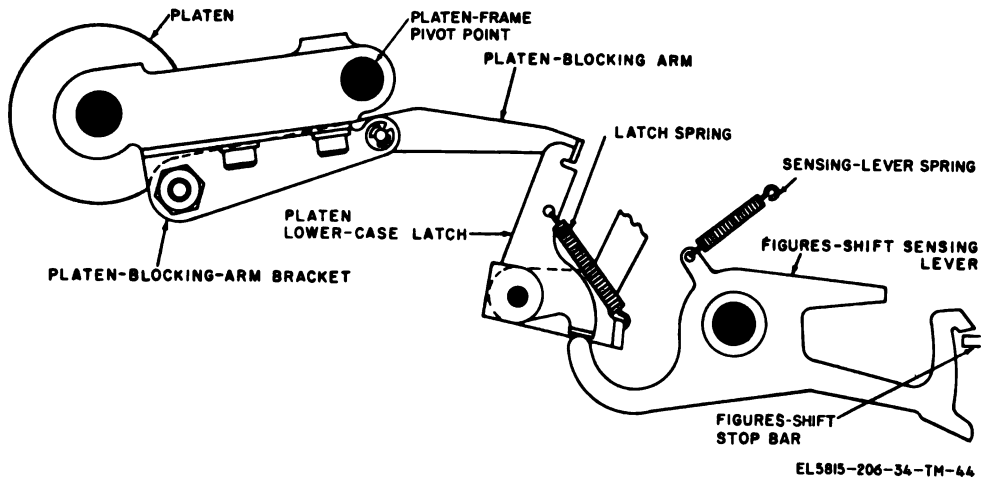

Figure 2-44. Platen-blocking mechanism.
*c. Releasing Platen Lower-Case Latch (TT-4B/TG, TT-4C/TG, TT-335/TG, TT-537/G, TT-689A/TG, and TT-698B/TG).* The platen-blocking arm and the platen lower-case latch (fig. 2-44) are used to lock the platen in the letters-shift position until the figures-shift sensing lever moves to a low portion of its cam (*b* above). When the sensing lever pivots, the curved arm of the sensing lever moves upward against one arm of the platen lower-case latch. The upper arm of the latch moves away from the latching end of the platen-blocking arm, and the arm is free to move downward when the platen (on the opposite side of the platen-frame pivot point) moves upward.
b. The figures-shift sensing lever is restored to its original position when one of the restoring rollers rotates into engagement and cams the lever upward. The opposite, curved arm trips the platen lower-case latch as shown in figure 2-44, while the platen-shift bellcrank is restored to its original position. When a code group, other than figures is received, the duplicate figures stop bar is restored and prevents the figures-shift sensing lever and related linkages from operating.
| <ol style="list-style-type: none"> <li>5 Restoring roller rotates out of engagement with figures-shift sensing lever; lever drops.</li> <li>6 Figures pawl moves into path of adjustable block on draw bar.</li> <li>7 Draw-bar moves downward and pulls figures pawl with it.</li> <li>8 Aperture gate (fig. 2-45) repositions and is latched.</li> </ol> | <ol style="list-style-type: none"> <li>Square-shaft turns until square-shaft stop arm strikes figures-shift stop bar.</li> <li>Curved arm of figures-shift sensing lever causes platen lower-case latch to pivot.</li> <li>Platen-shift bell crank pivots; platen-shift link moves and pivots platen support frame and platen to raised position.</li> <li>Platen blocking arm (fig. 2-44) moves into position behind latching surface of lower case latch.</li> </ol> |
*c. Locking Platen in Letters-Shift Position.* When the platen moves downward to the letters-shift position (b above), the latching end of the platen-blocking arm (fig. 2-44) moves upward. The platen-blocking arm is held in the upper position by the
| <ol style="list-style-type: none"> <li>1</li> <li>2</li> <li>3</li> <li>4</li> <li>5</li> <li>6</li> <li>7</li> <li>8</li> <li>9</li> <li>10</li> <li>11</li> <li>12</li> <li>13</li> <li>14</li> <li>15</li> </ol> | <p>Letters-shift code group received; Y-levers positioned accordingly (para 2-18a and b).</p> <p>Transfer-lever-latch tripping cam trips transfer-lever latch (para 2-19).</p> <p>T-levers and code rings positioned for selection of letters-shift operation.</p> <p>Code rings form groove in line with letters-shift stop bar.</p> <p>Letters-shift stop bar moves into groove in code rings.</p> <p>Square shaft rotates until square-shaft stop arm strikes letters-shift stop bar; finger of function-selecting arm aligned with letters-shift punch bar in punch-bar guide block.</p> <p>Lobe of function cam pivots function-cam follower counterclockwise (fig. 2-30).</p> <p>Function-selecting arm pushes letters-shift punch bar toward center of page printer (fig. 2-45).</p> <p>Letters-shift lever pivots counterclockwise; platen latch pivots clockwise.</p> <p>Gravity causes platen to move to letters-shift position; platen-latching arm and aperture gate move upward.</p> <p>Platen-blocking arm of TT-4(*)/TG, TT-335/TG, TT-537/G, and TT-698(*)/TG moves upward; locked in upper position by platen lower-case latch (fig. 2-44).</p> <p>Low portion of function cam pivots function-cam follower clockwise (fig. 2-30).</p> <p>Function-selecting arm moves away from letters-shift punch bar.</p> <p>Spring pulls platen latch counterclockwise; letters-shift lever pivots clockwise; letters-shift punch bar moves to the right to the unoperated position.</p> <p>Arm of function-clutch drum strikes function-clutch latch; drum moves away from function-shaft driving gear. Function shaft stops turning (fig. 2-27).</p> | <p>Function-clutch drum released by function-clutch latch (fig. 2-27).</p> <p>Function-clutch drum pushed into engagement with Function-shaft driving gear by function-clutch spring.</p> <p>Function shaft and square shaft start turning.</p> |